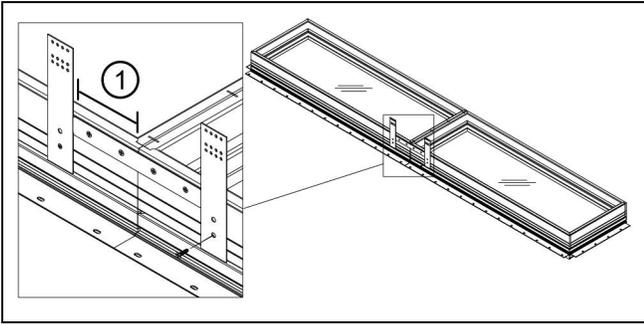

Figure 34
5. Install the steel mullion tie across head jambs and fasten with two #7 x 5/8" Phillips flat head wood screws into each unit. Install structural brackets 4" (102) from the mullion and attach with one #7 x 5/8" Phillips head screw as shown in Figure 34.